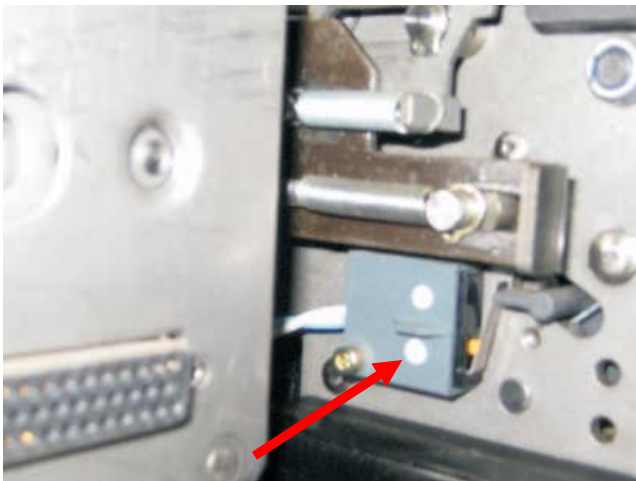

Figure 2. Assembly on mechanism
4. Slide the RTC switch assembly over the mechanism side sheet and locate in the two locating holes as shown in fig 2.